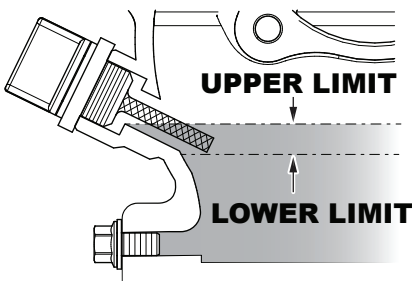

Figure 6. Engine Oil Level
4. If the oil level is low (Figure 6), fill to the edge of the oil filler hole with the recommended oil type listed in Table 6. Maximum oil capacity is 1.1 liters (1.16 quarts).